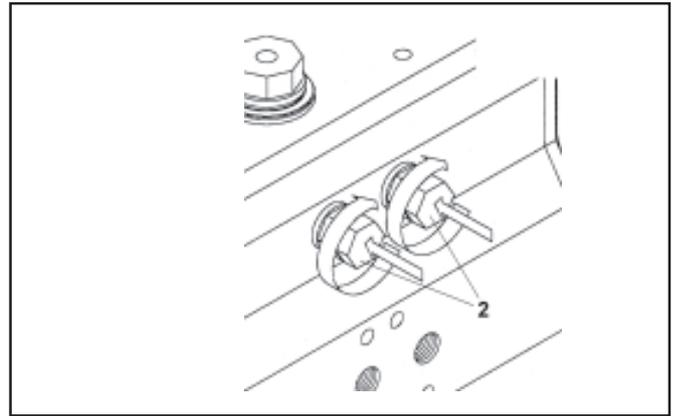

Fig. 29
Assembly of stop cap screws (2) and stroke adjustment: (Figure 29)
- Insert on both the stop cap screw (2), the nut (4), the washer (3), and the O-ring (11) in.
- Fit the stop cap screw (2) in the body.